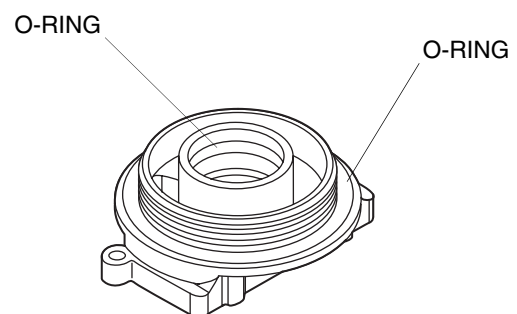

Figure 4
2. Apply silicone grease to all O-rings (Figure 4), the bevel on top of the tank and to the top 1 inch of the riser pipe.